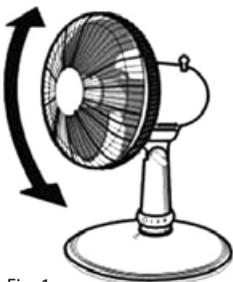

Fig. 1
3. Adjust the required inclination of the fan (Fig. 1). You will hear several clicks that lock the fan in individual positions.